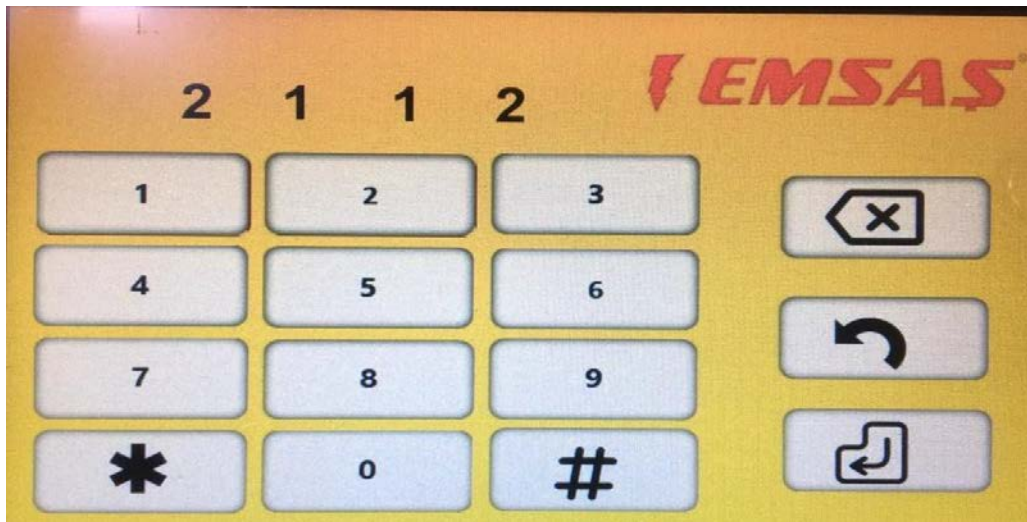

FIGURE 4
- In order to change the set value of the cabinet and adjust the alarm lower and upper limits, the settings button is pressed and the password screen in FIGURE 4 is displayed.